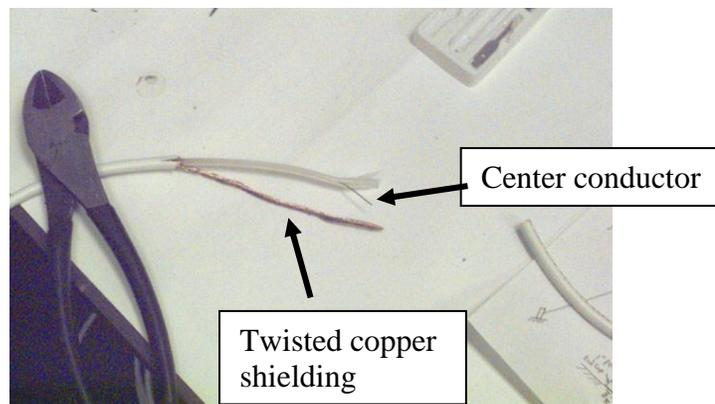

Figure 5.2c. Twist the copper shielding and expose the center conductor.
3. ○ Twist all the individual wires together to form one continuous wire (Figure 5.2c).